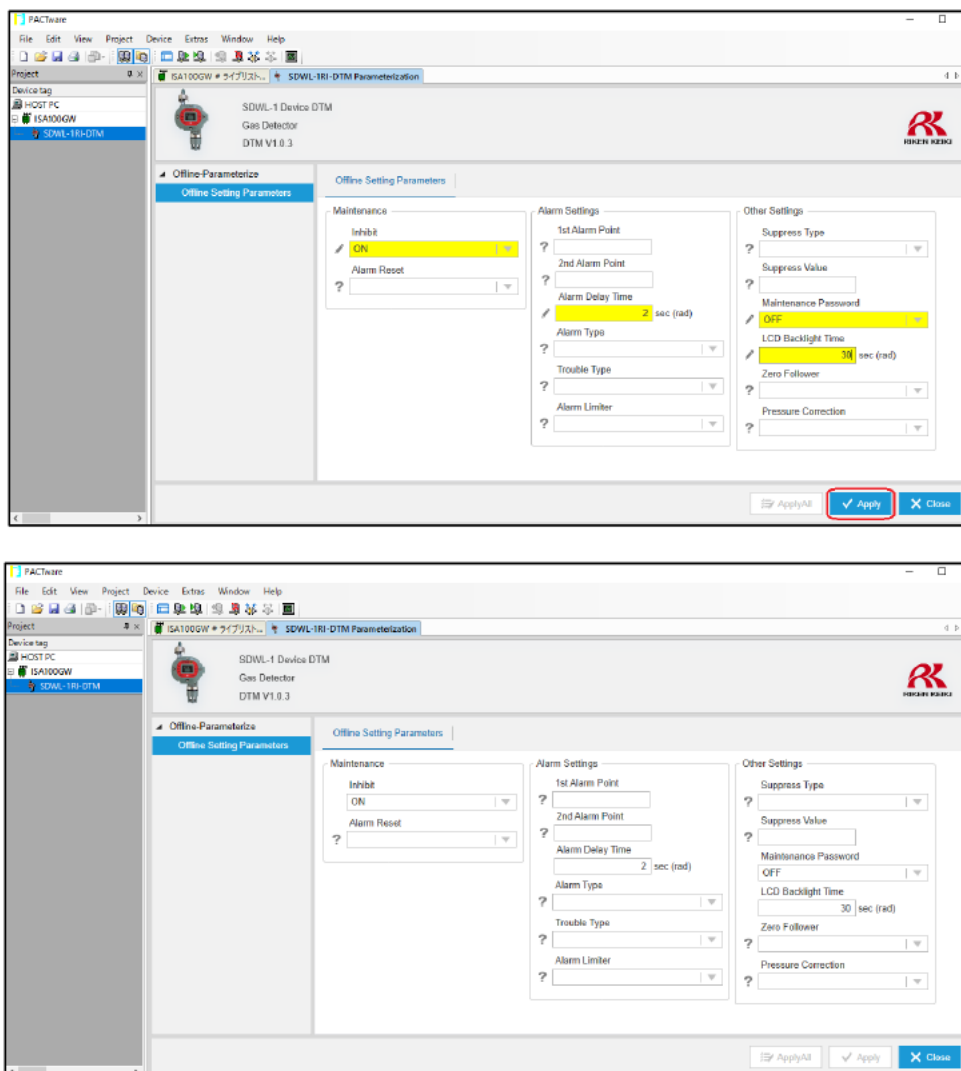

Figure 6-10 Offline parameter value editing
- ① Edit the parameter values within the “Offline Setting Parameters” tree menu, then click “Apply”. (Figure 6-10)